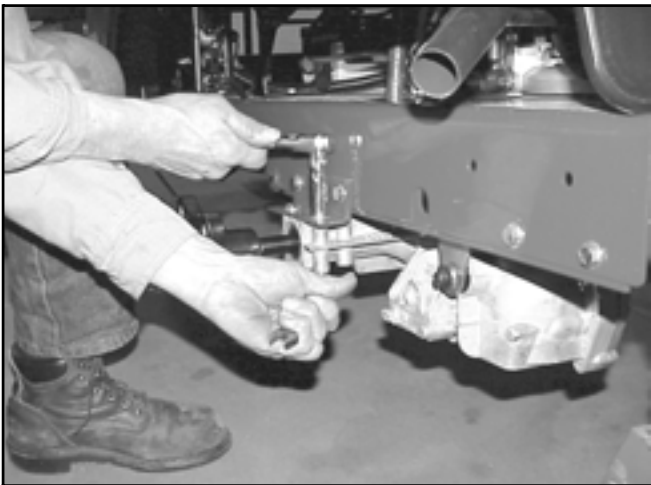

Figure 32
- Loosen the four bolts and nuts holding the transaxles to the hydro support brackets (Figure 32).